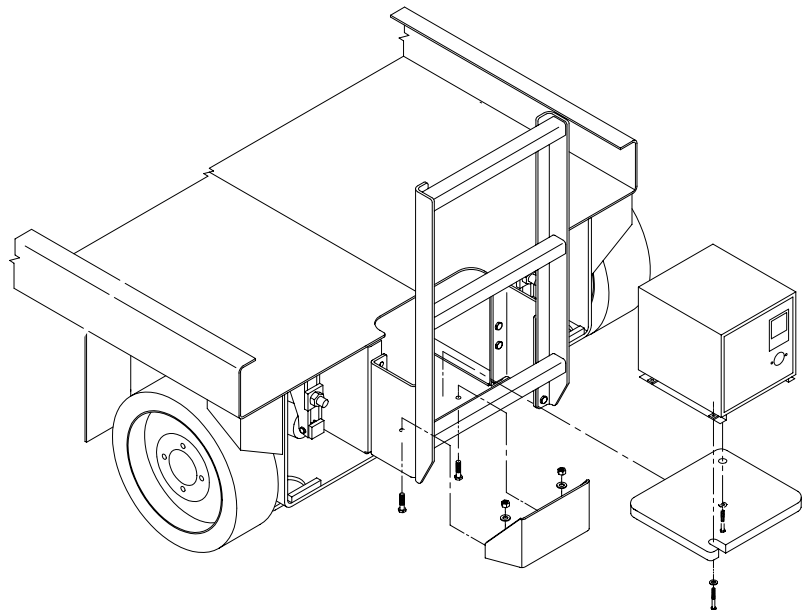

Figure 1
1. Remove the battery charger gaurd attaching bolts and remove the battery charger gaurd (retain hardware for reinstallation) (see Figure 1).
2. Remove the mounting hardware from the battery charger (see Figure 1).
3. Lift the battery charger and insert the supplied weight in place (see Figure 1).